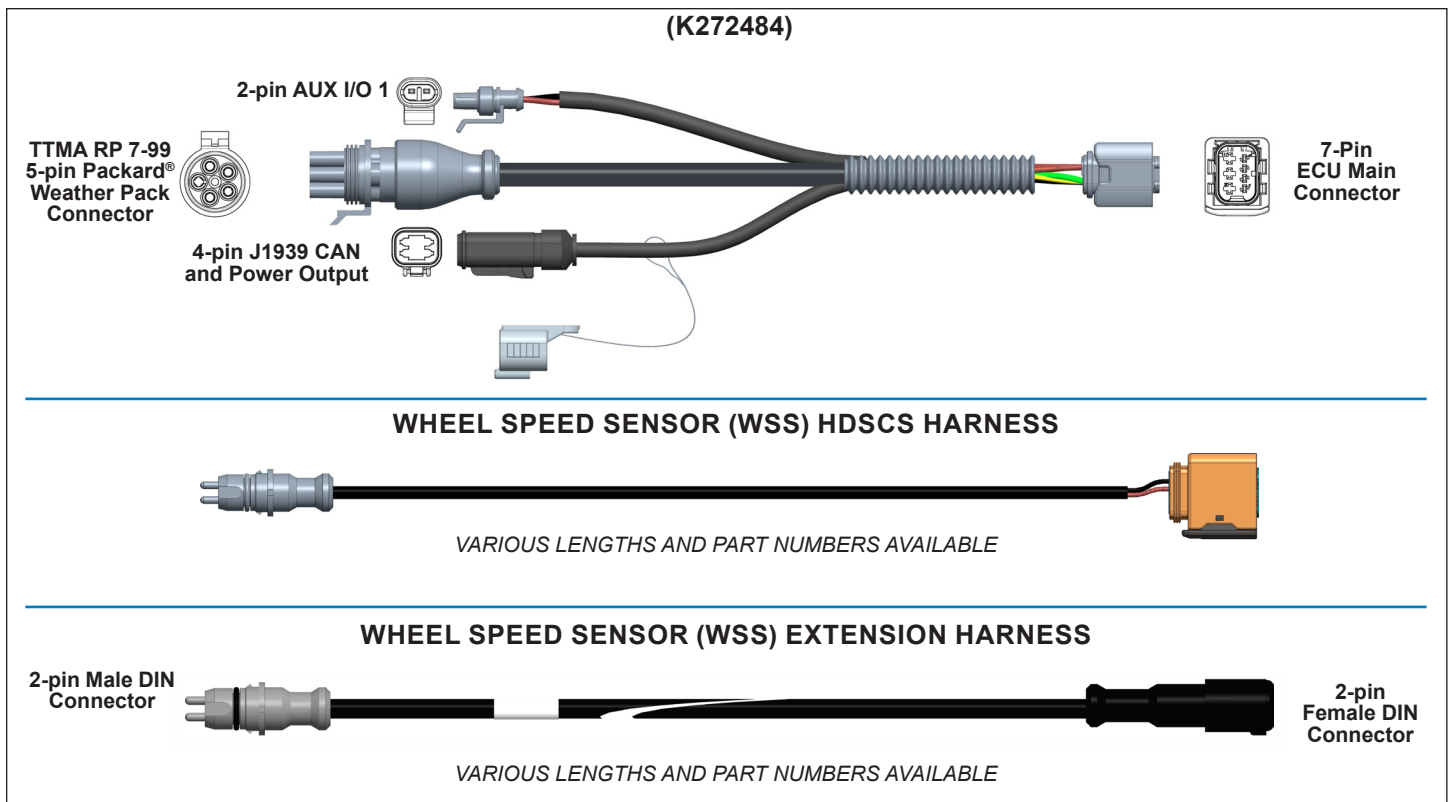

Figure 5 – Examples of Wiring Harnesses
- **5-pin Power Harness:** See Figure 5. A power harness is required. Variations that include auxiliary sub-harnesses are available as needed.
See Figure 5. Wiring harnesses are available to connect the iTABS module to the main trailer power harness and other supported auxiliary features. Wiring harnesses are weather-sealed at the connector interface and are clearly labeled for proper installation. Because of the over-molded design of the iTABS module wiring harnesses, Bendix recommends the complete harness be replaced if damage or corrosion occurs.
See Figure 5. iTABS module ECU connectors use a 7-pin TE Connectivity™ HDSCS connector for brake light power, constant power, the trailer-mounted ABS indicator lamp, ground, and – depending on the harness version – it may include the AUX 1 I/O. Note that some parts may be pre-configured with auxiliary features on the AUX I/Os and may require additional harnessing.